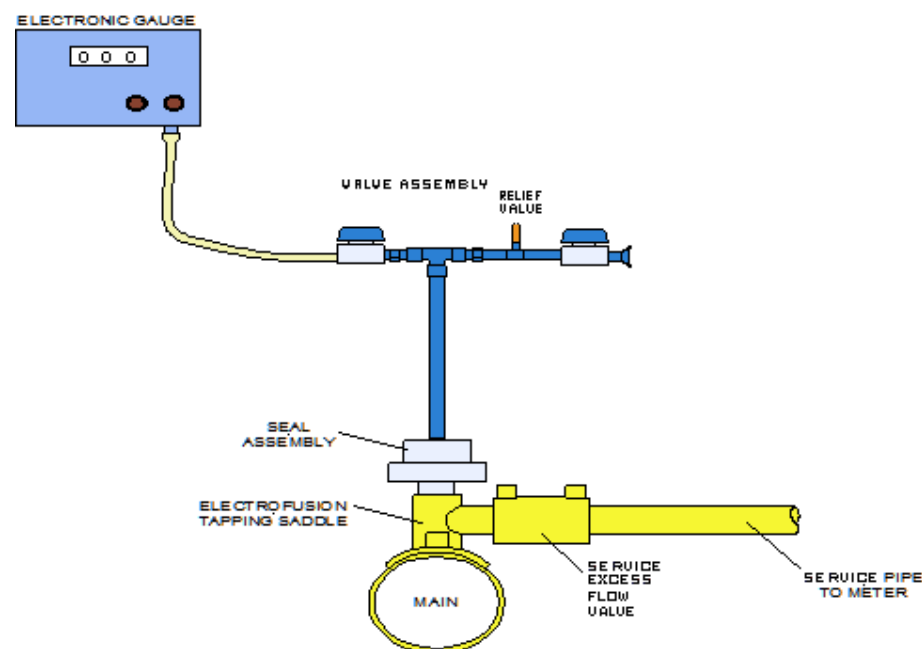

Figure 104 - Example – MP Test set up
3. You should install the test equipment on the mains connection. See Figure 104.